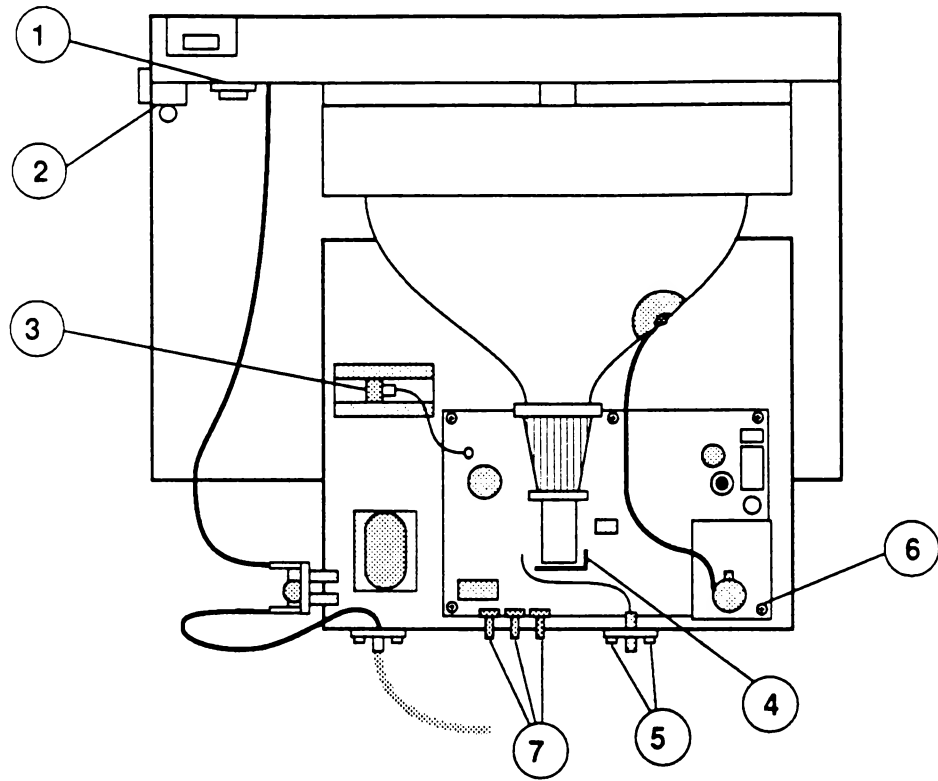

FIGURE 11
10. Remove the LED mounting screw (Figure 11, #1) and the two mounting screws that secure the contrast control (Figure 11, #2). The LED assembly and the contrast control assembly will remain attached to the main electronics assembly. Using diagonal cutters, carefully cut all tie wraps along these wires.
11. Disconnect the 3-wire connector (Figure 11, #3) from the transistor on the bottom of the metal chassis.
12. Disconnect the socket (Figure 11, #4) from the neck of the CRT.
13. Remove the two screws (Figure 11, #5) that attach the video jack to the chassis.
15. The right-rear mounting screw (Figure 11, #6) also holds the flyback transformer shield. The connection between this corner of the main electronics assembly and the undermounting has been strengthened with glue. After removing the screw, remove the transformer shield, then loosen the glue by sliding an exacto knife between the main electronics board and the undermounting. Attempting to lift the board before the glue has been loosened will break the corner and make the main electronics assembly worthless.
16. The main electronics assembly can now be removed by sliding it forward to allow the rear control knobs (Figure 11, #7) to clear the chassis, and then lifting the board up and out.
1. Mount the main electronics assembly on the chassis, fitting the three rear control knobs (Figure 11, #7) through the holes in the chassis. Secure the board with the five mounting screws, making sure the flyback transformer shield also is secured with the right-rear mounting screw (Figure 11, #6).
2. Replace the two screws that secure the video jack (Figure 11, #5).
3. Replace the CRT socket (Figure 11, #4).
4. Connect the 3-wire connector to the transistor (Figure 11, #3) on the bottom of the chassis. Make sure the red wire is toward the back of the monitor. (A reversed connection results in a wavy screen and overheating of the regulator.)
5. Replace the screws that secure the LED assembly (Figure 11, #1) and the contrast control assembly (Figure 11, #2) to the inside of the bezel.